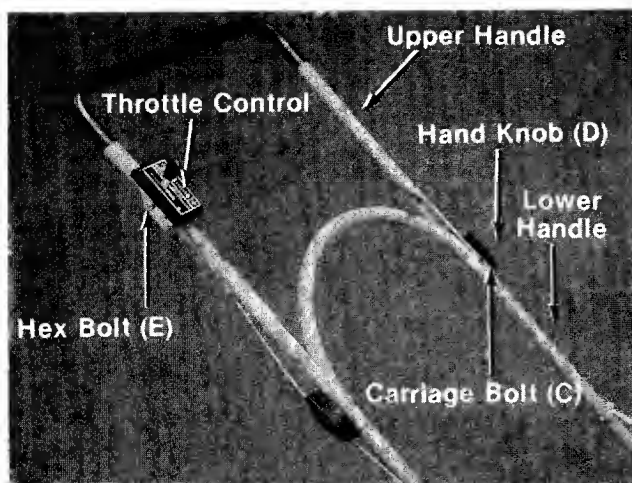

FIGURE 5.
4. Assemble upper handle to lower handle. Secure with two curved carriage bolts (C) and hand knobs (D) as shown in figure 5. The hand knobs may be assembled either to the inside or the outside of the handle.
5. Place the throttle control in position on **right** side of upper handle. Secure with hex bolt (E) and lock nut (F). See figure 5.